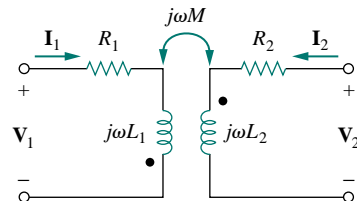

Figure 13.75 For Prob. 13.5.
- 13.5** Determine V_1 and V_2 in terms of I_1 and I_2 in the circuit in Fig. 13.75.